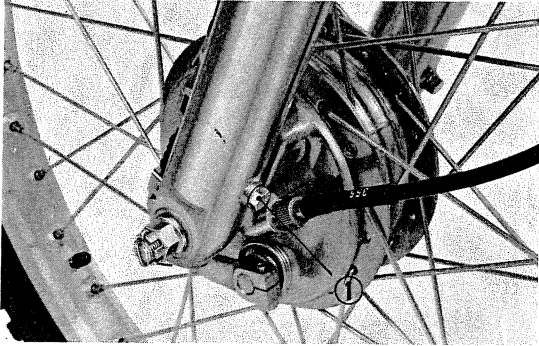

Fig. 21 ① Drain plug
- 3) Reinstall the drain plugs and refill with fresh oil. (Fig. 21)